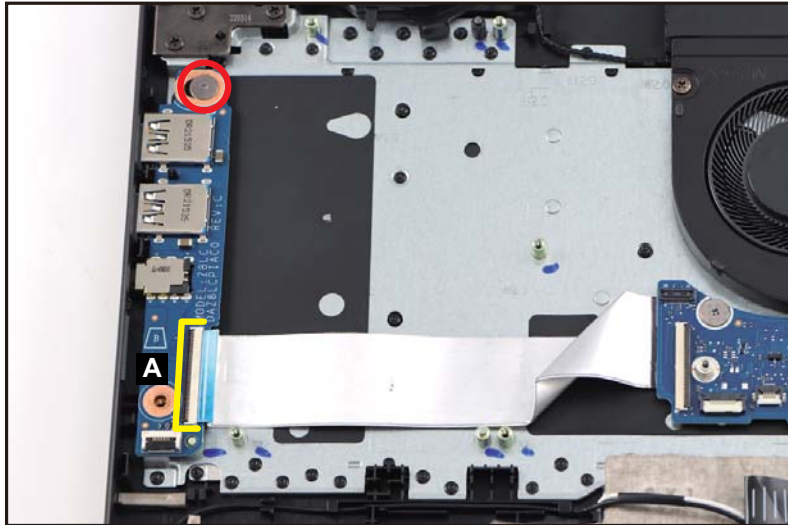

Figure 1-38. IO Board Removal
1. Disconnect the DB FFC from the IO board connector (A) (Figure 1-38).
2. Remove one (1) screw securing the IO board (Figure 1-38).